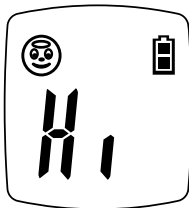

Figure 4.2
- When measurement value is higher than 109.2°F (42.9°C), it displays Hi (Figure 4.2) and gives 4 consecutive beeps and the backlight on the LCD screen will turn red.